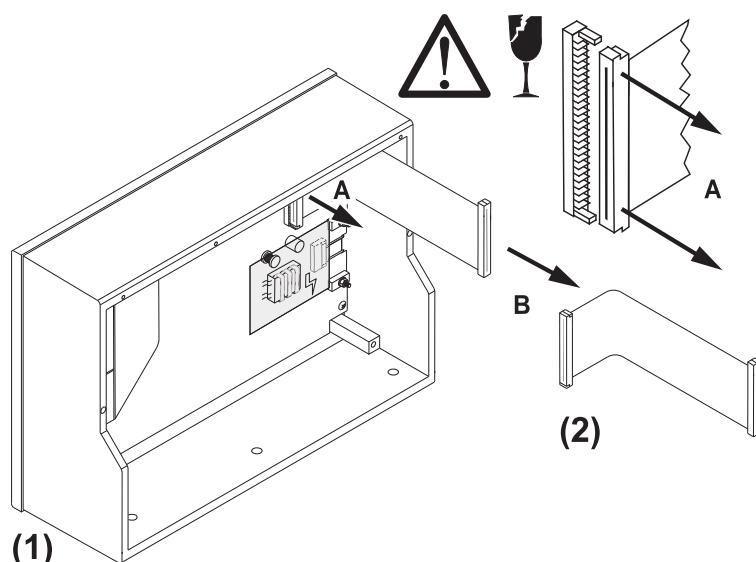

Fig. E 7-5: Removal of the connecting flat cable from the display pcb
4. Loosen carefully the wide locker (right above on the display pcb) of the other side of the connecting flat cable. Avoid damage of the locker and the connecting flat cable because of canting. Store the cable with the discarded main pcb. (Fig. E 7-5)